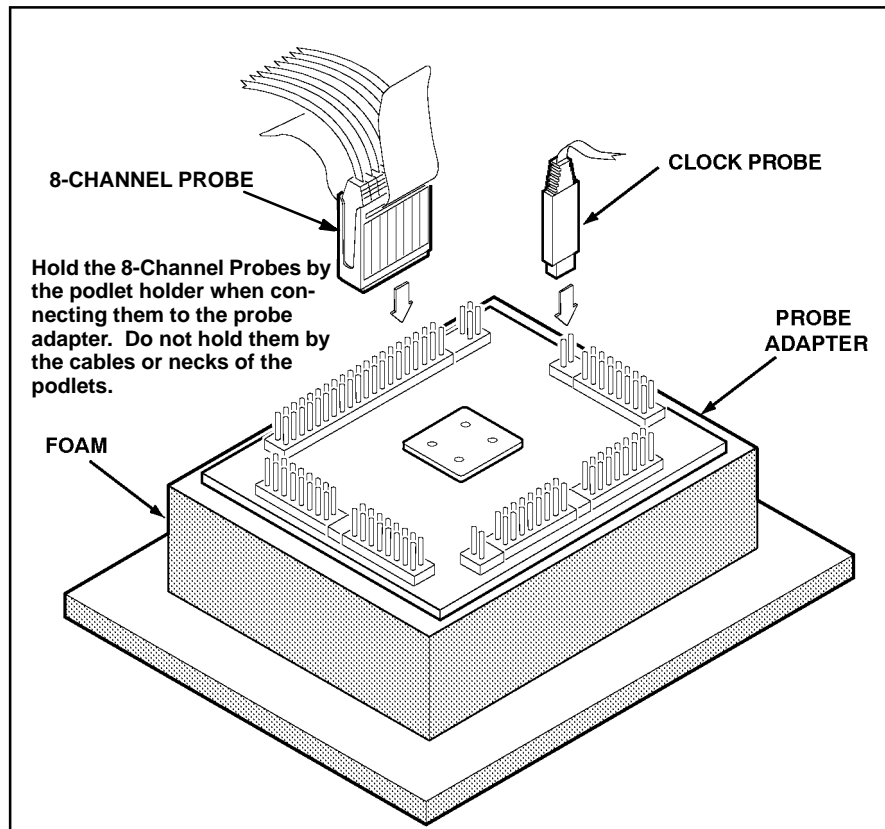

Figure 2-3. Connecting the podlets to a typical PQFP probe adapter.
3. Place the probe adapter onto the antistatic shipping foam to support the probe as shown in Figure 2-3. This prevents the circuit board from flexing.
4. Connect the clock and 8-channel probes to the probe adapter as shown in Figure 2-3. Match the channel groups and numbers on the interface housing to the corresponding pins on the probe adapter.